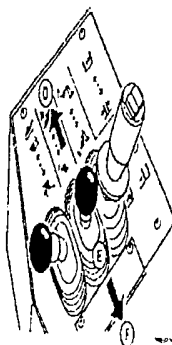

Figure 1-6
(1) Moving the left control lever to the full forward position, (A) allows the bucket/forks to float along the ground contours.
(2) Moving the left control lever to the forward position, (B) lowers the bucket/forks.
(3) Moving the left control lever to the rearward position, (C) raises the bucket/forks.
f. This control lever, figure 1-6, tilts forward or dumps and tilts rearward or rolls back.